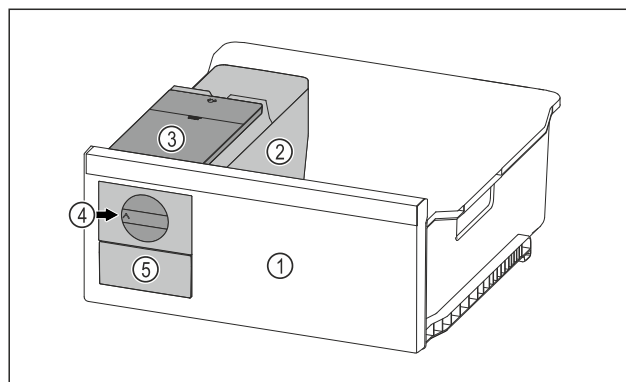

Fig. 111 Example illustration
- Turn the rotary knob Fig. 111 (4) clockwise as far as it will go.
- Ice cubes fall from the ice cube tray into the ice cube drawer Fig. 111 (5).